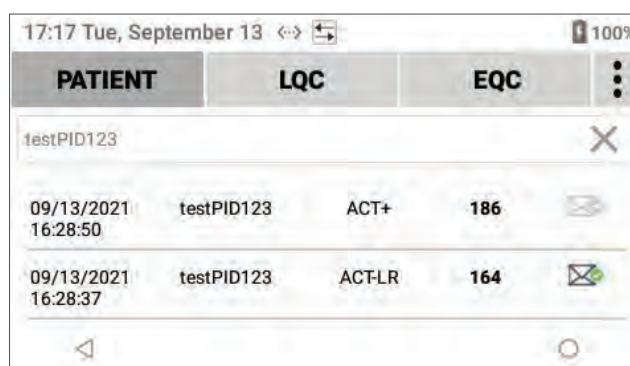

Figure 75: Filter by PID or OID
- **PID or OID** – To filter by a specific PID or OID, select **PID** (PID) or **OID** (OID), select **Scan** to scan a compatible PID/OID barcode or manually enter the PID/OID (touch the text field to display virtual keyboard), and select **Find**. The selection criteria will be displayed on the screen (Figure 75). To exit, select **X** or select other tab. This search is available for **Patient** (both PID and OID) and **LQC** (only OID) test results.